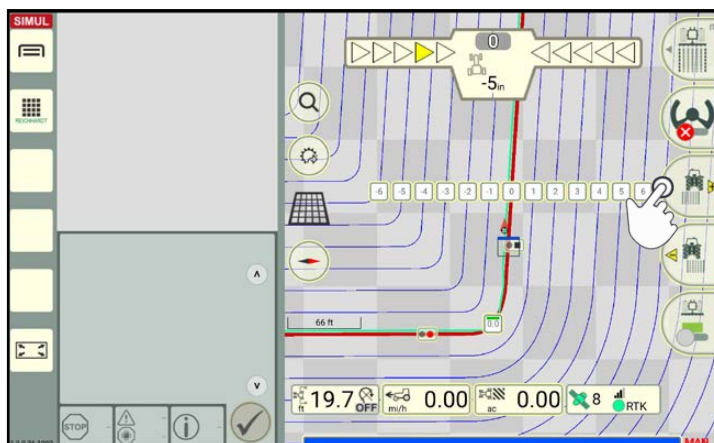

Fig. 109: Parallel track pattern after stopping the reference track recording
- A parallel track pattern is created for the last created reference track (see Fig. 109);